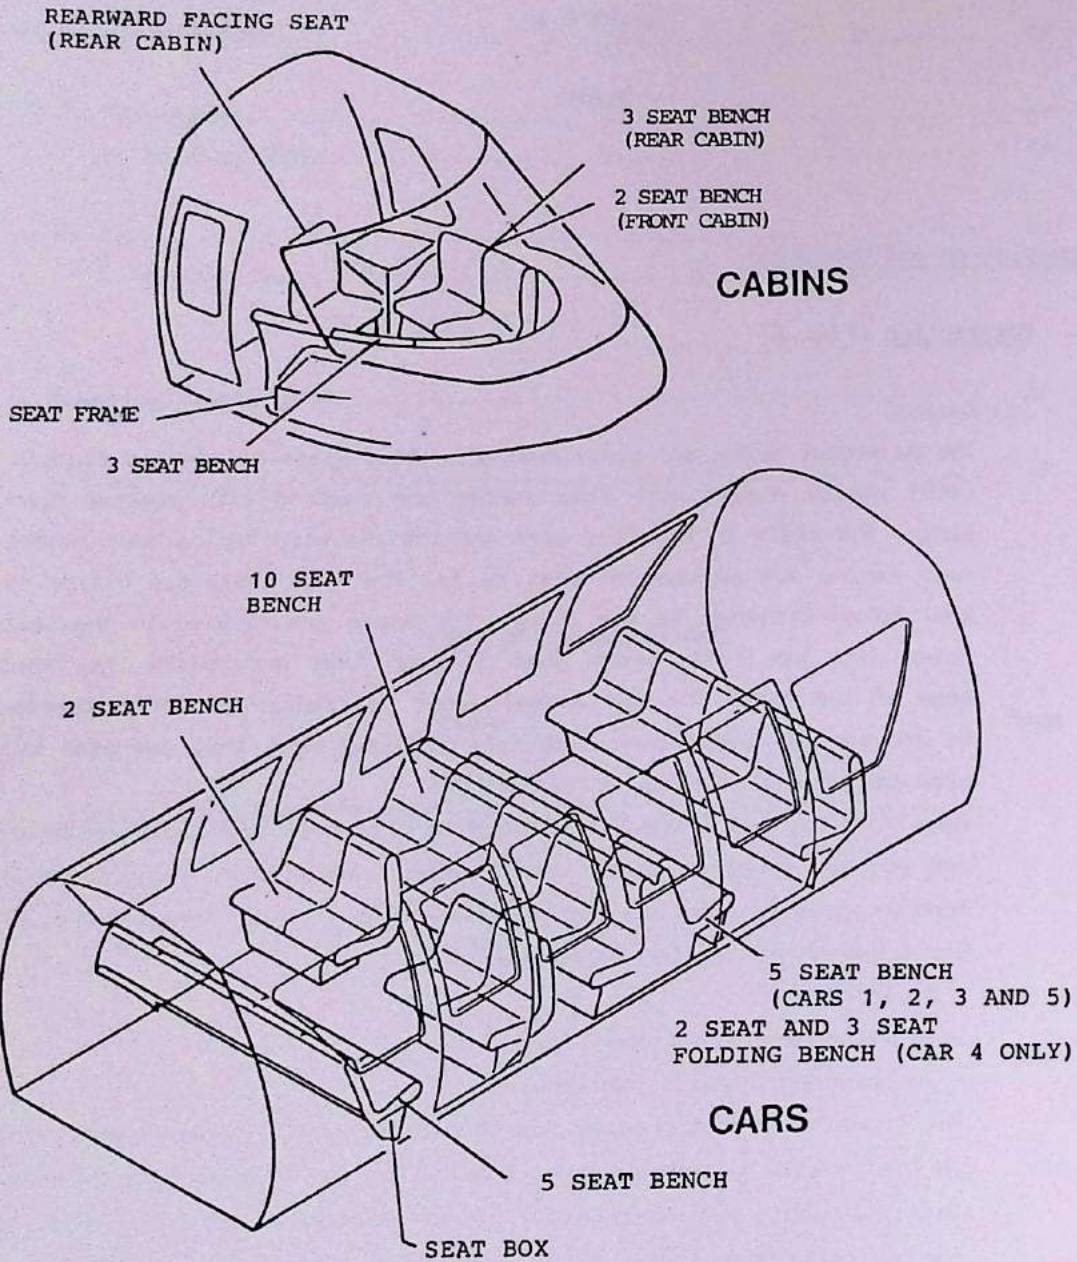

Fig. 1 Seats - General Arrangement
1. Description and OperationA. Description (Fig. 1)(1) General